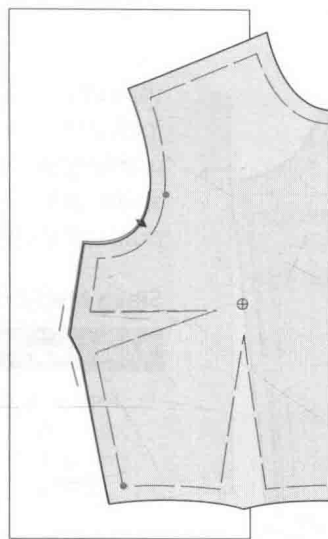

FIGURE 6.29b Trace affected seamlines and mark amount of change.
4. Trace the affected area of the pattern to be altered, making a duplicate. Use a black pencil or pen for the tracing (see heavier red outline in Figure 6.29b). For relocation purposes, mark pivot points on the traced duplicate. Mark the amount of change.